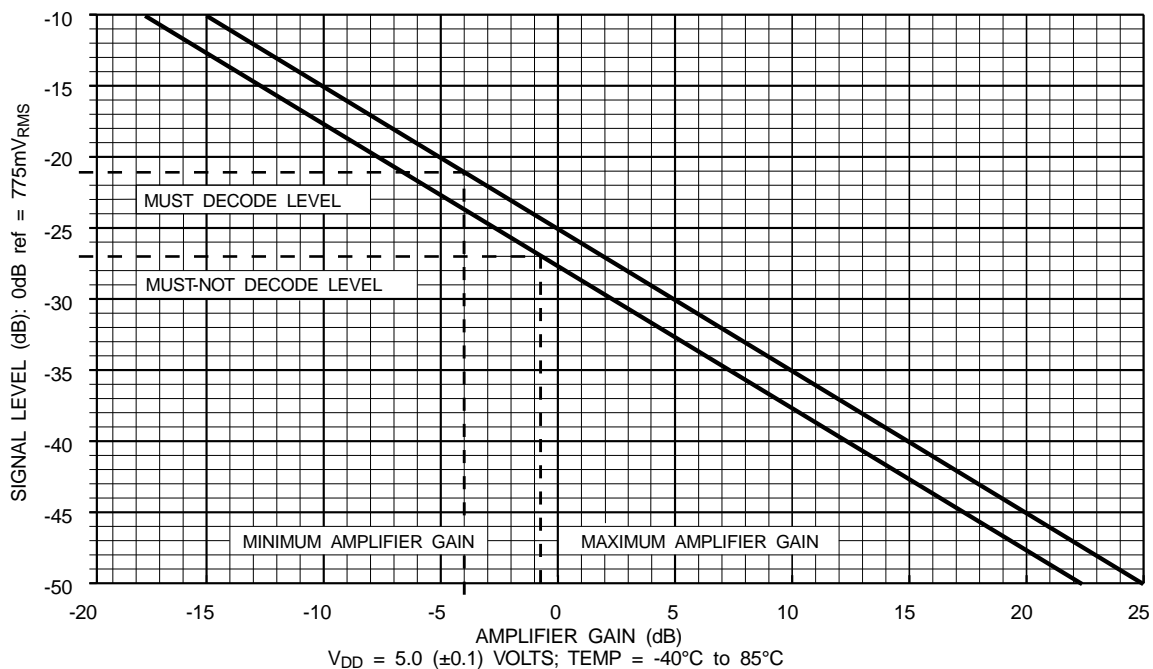

Figure 7: Input Gain Calculation Graph for use in the Fixed Sensitivity Mode
With reference to the graph in Figure 7, the following steps will assist in the determination of the required gain/attenuation.
- Step 1 Draw two horizontal lines from the Y-axis (Signal Level) in Figure 7. The upper line represents the required 'Must' decode level. The lower line represents the required 'Must-Not' decode level
Component tolerances should not move the gain-figure outside these limits. The graph in Figure 7 is for the calculation of input gain components for an MX641 using a V_{DD} of 5.0 (± 0.1) volts.